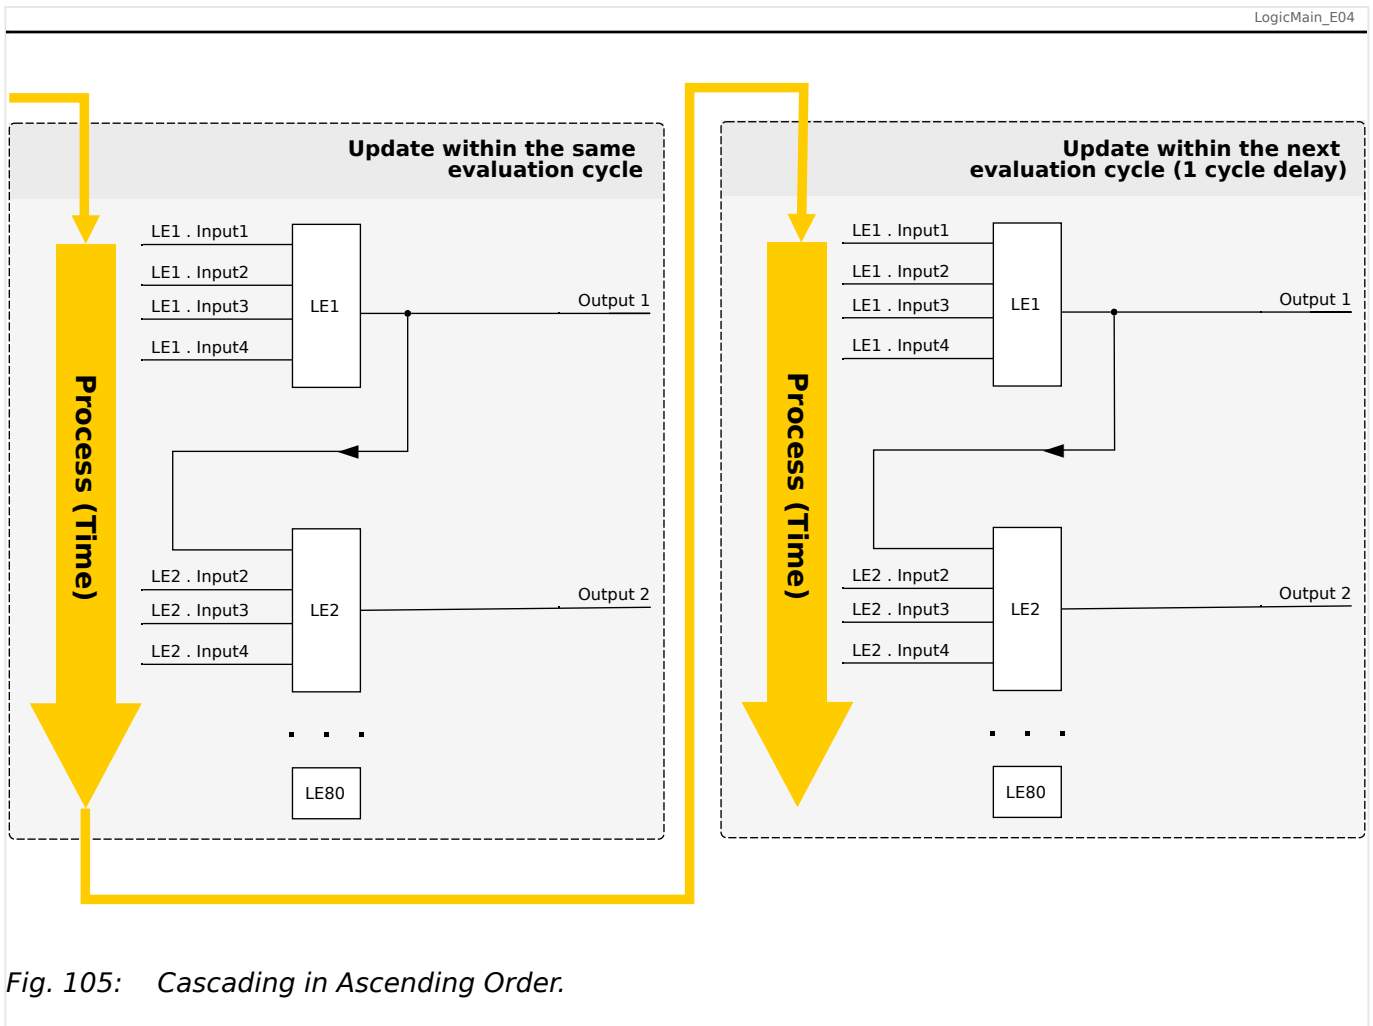
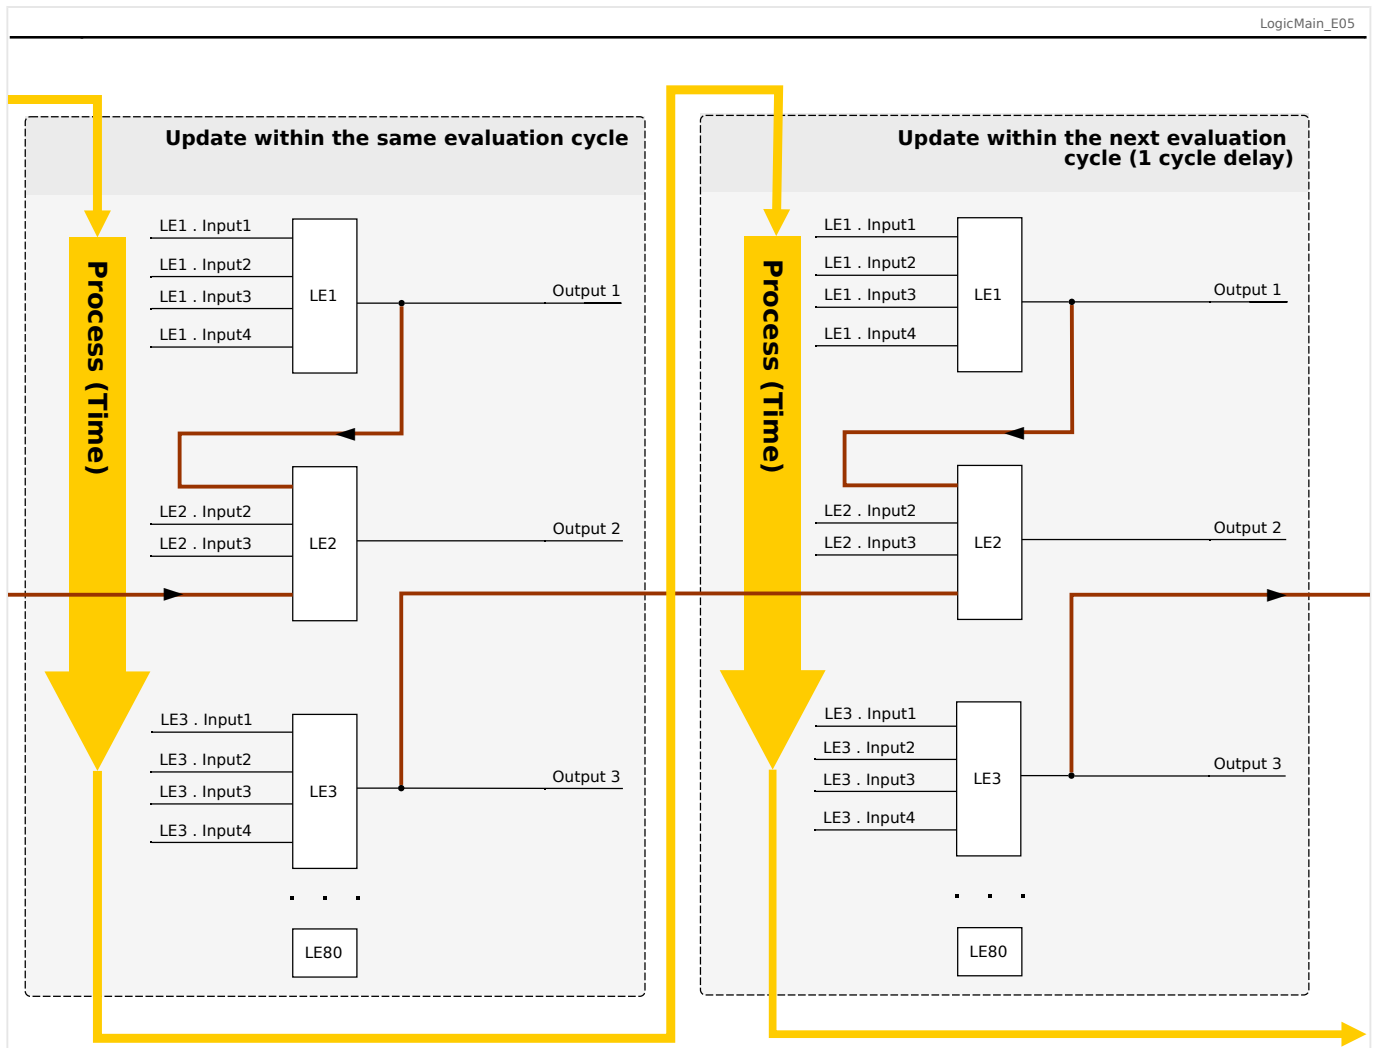

Fig. 105: Cascading in Ascending Order.
Fig. 106: Cascading in Descending Order.
- **Ascending** sequence means that some output is fed into the input of a logic equation with **higher** number. For instance, diagram  Fig. 105 below shows an example where the result of Logic Equation LE1 is used as an input of Logic Equation LE2.
- **Descending** sequence means that some output is fed into the input of a logic equation with **lower** number. For instance, diagram  Fig. 106 shows an example where the result of Logic Equation LE3 is used as an input of Logic Equation LE2.
Both ascending and descending sequences may be used and combined one with the other, with no immediate difference. However, due to the evaluation of all equations in ascending order the actual run-time values that are fed in at the input of an equation will have a different “age”, as is shown in  Fig. 105 and  Fig. 106 below.
In the example shown in Fig. 106 above, “Logic Equation 2” uses the output states of two other equations, “Logic Equation 1” and “Logic Equation 3”. The result of “Logic Equation 1” is used in ascending order and has therefore been evaluated within the same process cycle. The result of “Logic Equation 3” is used in descending order and has therefore been evaluated in the previous process cycle.